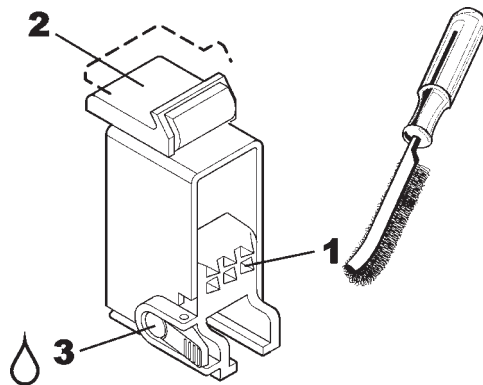

Fig. 6.0-2
C. Weekly clean the teeth of the jaws (1 Fig. 6.0-2) with a wire brush, check the nylon clamping jaw insert (2) and replace if worn. Clean the lock / un-lock mechanism of the clamping jaw (3) and slightly lubricate it.